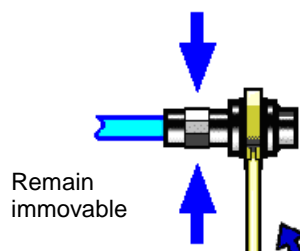

Figure 4-3. Use the torque wrench to tighten the final connection
c) Use the torque wrench to tighten the final connection. Pay attention to that the torque wrench should not exceed the starting break point. Use an auxiliary wrench to prevent the connector from turning. As shown in Figure 4-3: